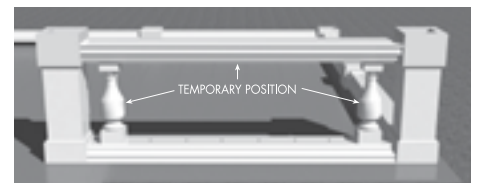

FIGURE 6C
C) Temporarily position BALUSTERS on each end of BALUSTER BOTTOM RAIL. Temporarily position BALUSTER TOP RAIL and the remaining NEWEL POST components to visualize and determine height of the NEWEL POST (Fig. 6C). If the NEWEL POST is too high, the TOP SECTION, CENTER SECTION and/or BOTTOM SECTION of the NEWEL POST can be trimmed.